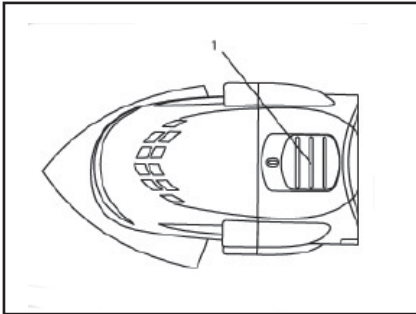

Fig. 5
- ✿ To turn the tool ON, slide the ON/OFF switch (1) toward the front of the tool (Fig. 5).
3. Place the tool with the saw blade (3) lightly touching the surface of the tile and the cutting teeth NOT touching the surface to be cut.
4. Set the speed to the fastest speed and turn to tool ON (Fig. 5 & 6)
3. Place the saw blade (2) near the floor surface in the middle of one of the cutting lines.
4. Set the tool speed at a medium speed and turn the tool ON (Fig. 5 & 6)
3. Place the corner edge of the saw blade (2) near the drywall in the middle of one of the cutting lines.
4. Set the speed to the highest speed and turn the tool ON (Fig. 5 & 6)
4. Turn the switch ON as outlined in Fig. 5
2. Set the speed control wheel to #4 and turn the switch ON as outlined in Fig. 5 & 6.